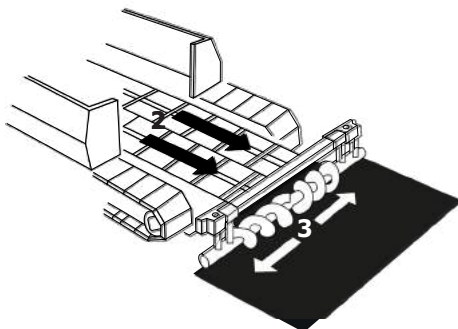

Figure 2 - Distribution of material in front of the screed
The asphalt paver consists of two identical sides as displayed in figure 2. The two conveyor belts (2) and the two augers (3) are all regulated independently of one another, and therefore require its own monitoring and regulation of material feed.